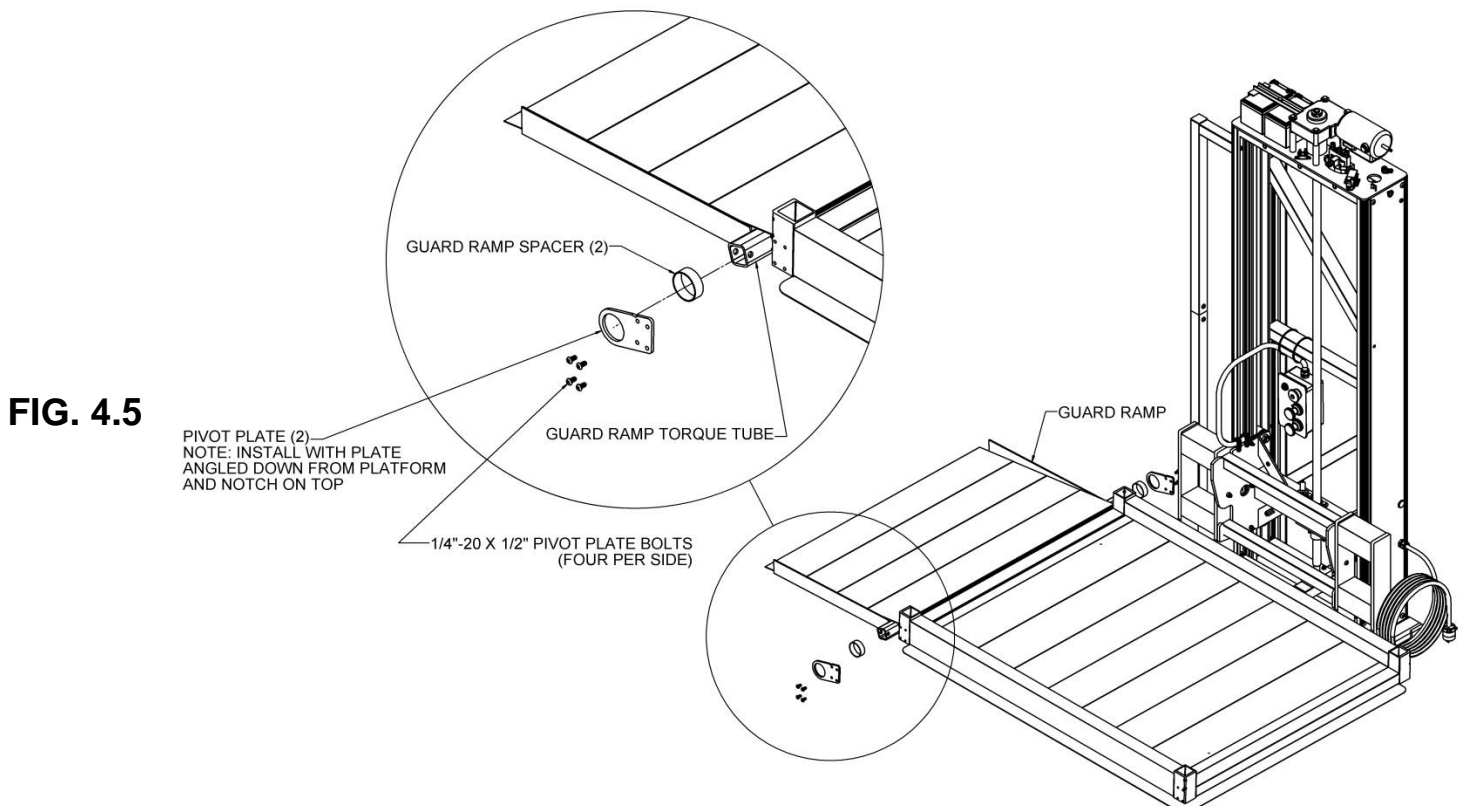

FIG. 4.5
7. Locate the guard ramp (included in the box with the platform), the guard ramp pivot plates, the 1/4"-20 x 1/2" pivot plate attachment bolts and guard ramp spacers (included in the hardware bag) then slide the pivot plates and spacers over the ramp torque tubes as shown (FIG. 4.5).
8. Position the guard ramp with pivot plates on the entry side of the platform and secure both pivot plates to the platform with the 1/4"-20 x 1/2" pivot plate attachment bolts (FIG. 4.5).